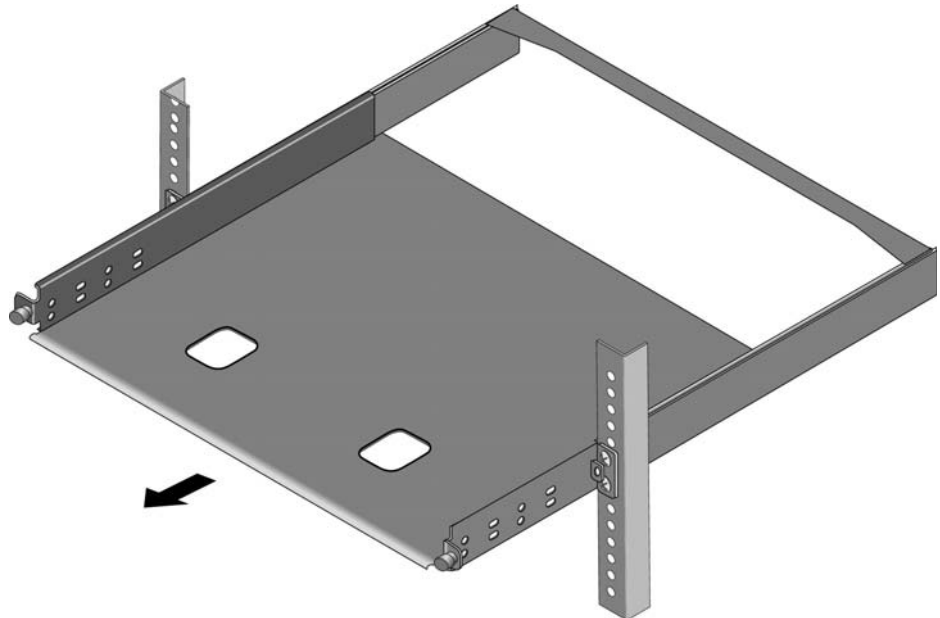

Figure 25. Sliding Out the Tray from the AT-RKMT-J15 Bracket
3. Slide out the bracket tray. Refer to Figure 25.